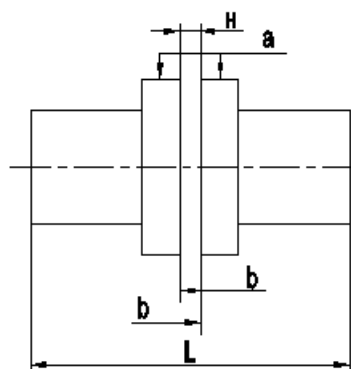

图 9 Fig.9
(2) 将装好半联轴节的电机就位前，应按减速机外形及安装示意图中联轴器的总长 L(图 9)尺寸（总长 L 尺寸是由用户确定），留足轴向 L 尺寸。并保证联轴器的法兰间的间隙尺寸 H=10~15mm，该尺寸在联轴器装配图和减速机外形图标注有（如未标注，该尺寸为 H=10mm）。
Before operating the motor with half coupling, sufficient space should be left (decided by the customer) for the coupling dimension L (see Fig.9) according to
- (3) 主电机轴线和减速机轴线的对中找正（如图 9）。其精度推荐按表 1 进行找正好后，固定主电机并按以上要求复查合格后，安装弹性销部件。
For the axis alignment of main motor and unit (Fig.9), the accuracy is recommended as table 1. After proper alignment, secure the motor and review again according to the above-said requirements. Then install the elastic pin assemblies.